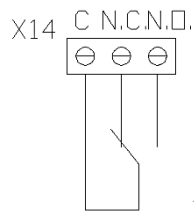

Figure 18 Potential-free contact door/roller shutter close to smoke detection
If a separate smoke detection is selected for situations with air bellows for smoke sealing, it can be connected to X9 (Fig. 17) Connection 1 and 2 is a potential free N.C. (NC) Contact. The Reset (parameter 4.5, 0 to 240 sec., default setting 60 sec.) for this you can connect to X9 connections 3 and 4 as potential free N.O. contact. To indicate that the door is closed when the RMC (Smoke-detection contact) input is activated, output X14(Fig. 18) is present as a potential-free changeover contact. If the door is equipped with Air Bellows, the compressor valve can be controlled with this. See Figure 19 for the schedule off controlling a 24vdc valve.